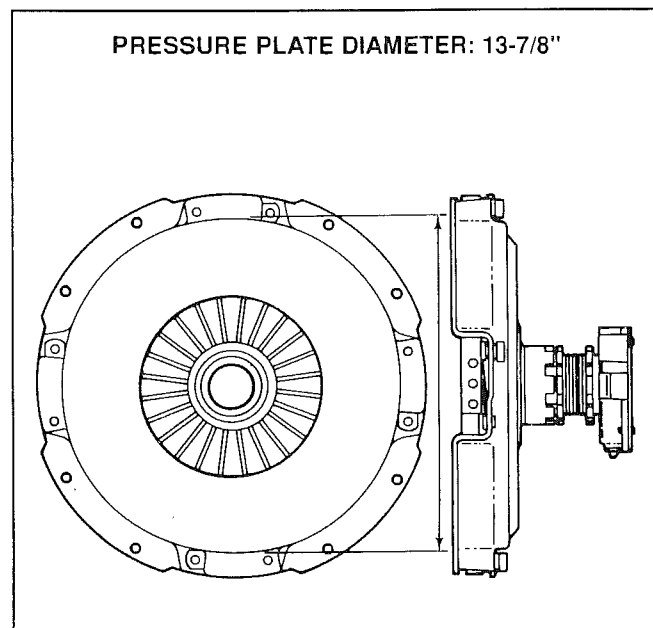

Figure 4-4. Measuring Points on Pressure Plate for 14-inch Clutch
- Measure the pressure plate diameter (Fig. 4-4).